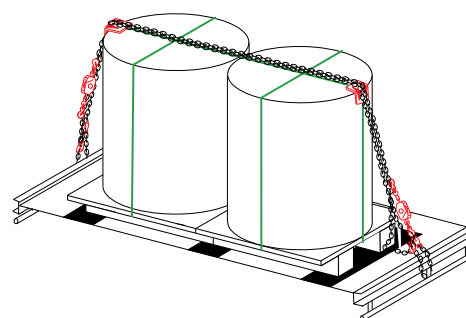

Figure 3. Anti-slip Rubber **MUST** be placed underneath both pallets.
- ✓ Anti-slip rubber must be used under both pallets, as per **Figure 3**.